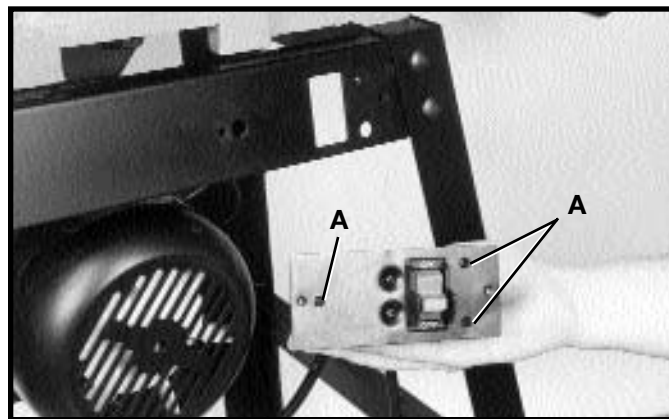

Fig. 30
4. Remove the three screws (A) Fig. 30, and remove the back switch cover.